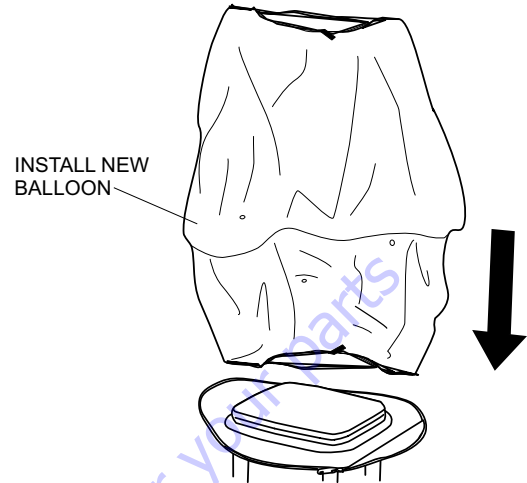

Figure 22. Replacing Balloon
3. Slide in the new replacement balloon over the top of the lamp guard assembly. See Figure 22.